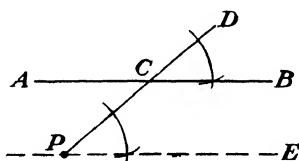

Fig. 130.
a. Draw any line  $PD$  through  $P$  cutting line  $AB$  at  $C$  (see Fig. 130).